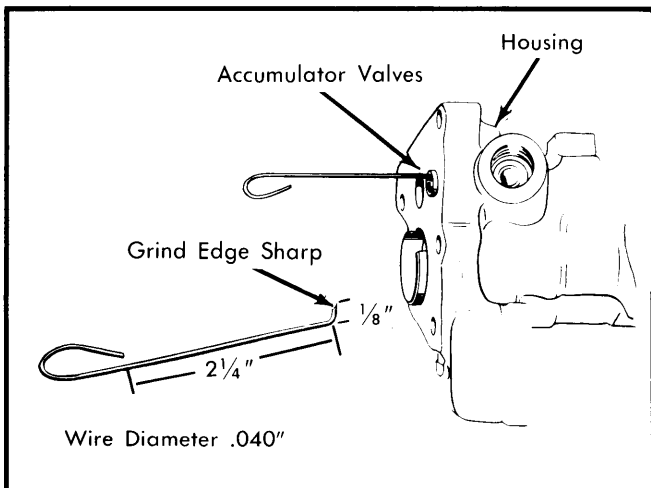

Fig. 5 Removing Accumulator Valves
7) Slowly back off clamp until tension on accumulator is released, then remove accumulator and "O" ring. If accumulator valve is faulty, remove valve using a small diameter wire tool. See Fig. 5. Remove the dump valve by catching the tool under the pin guide near the center of the valve, then remove the 2-function valve and seat.